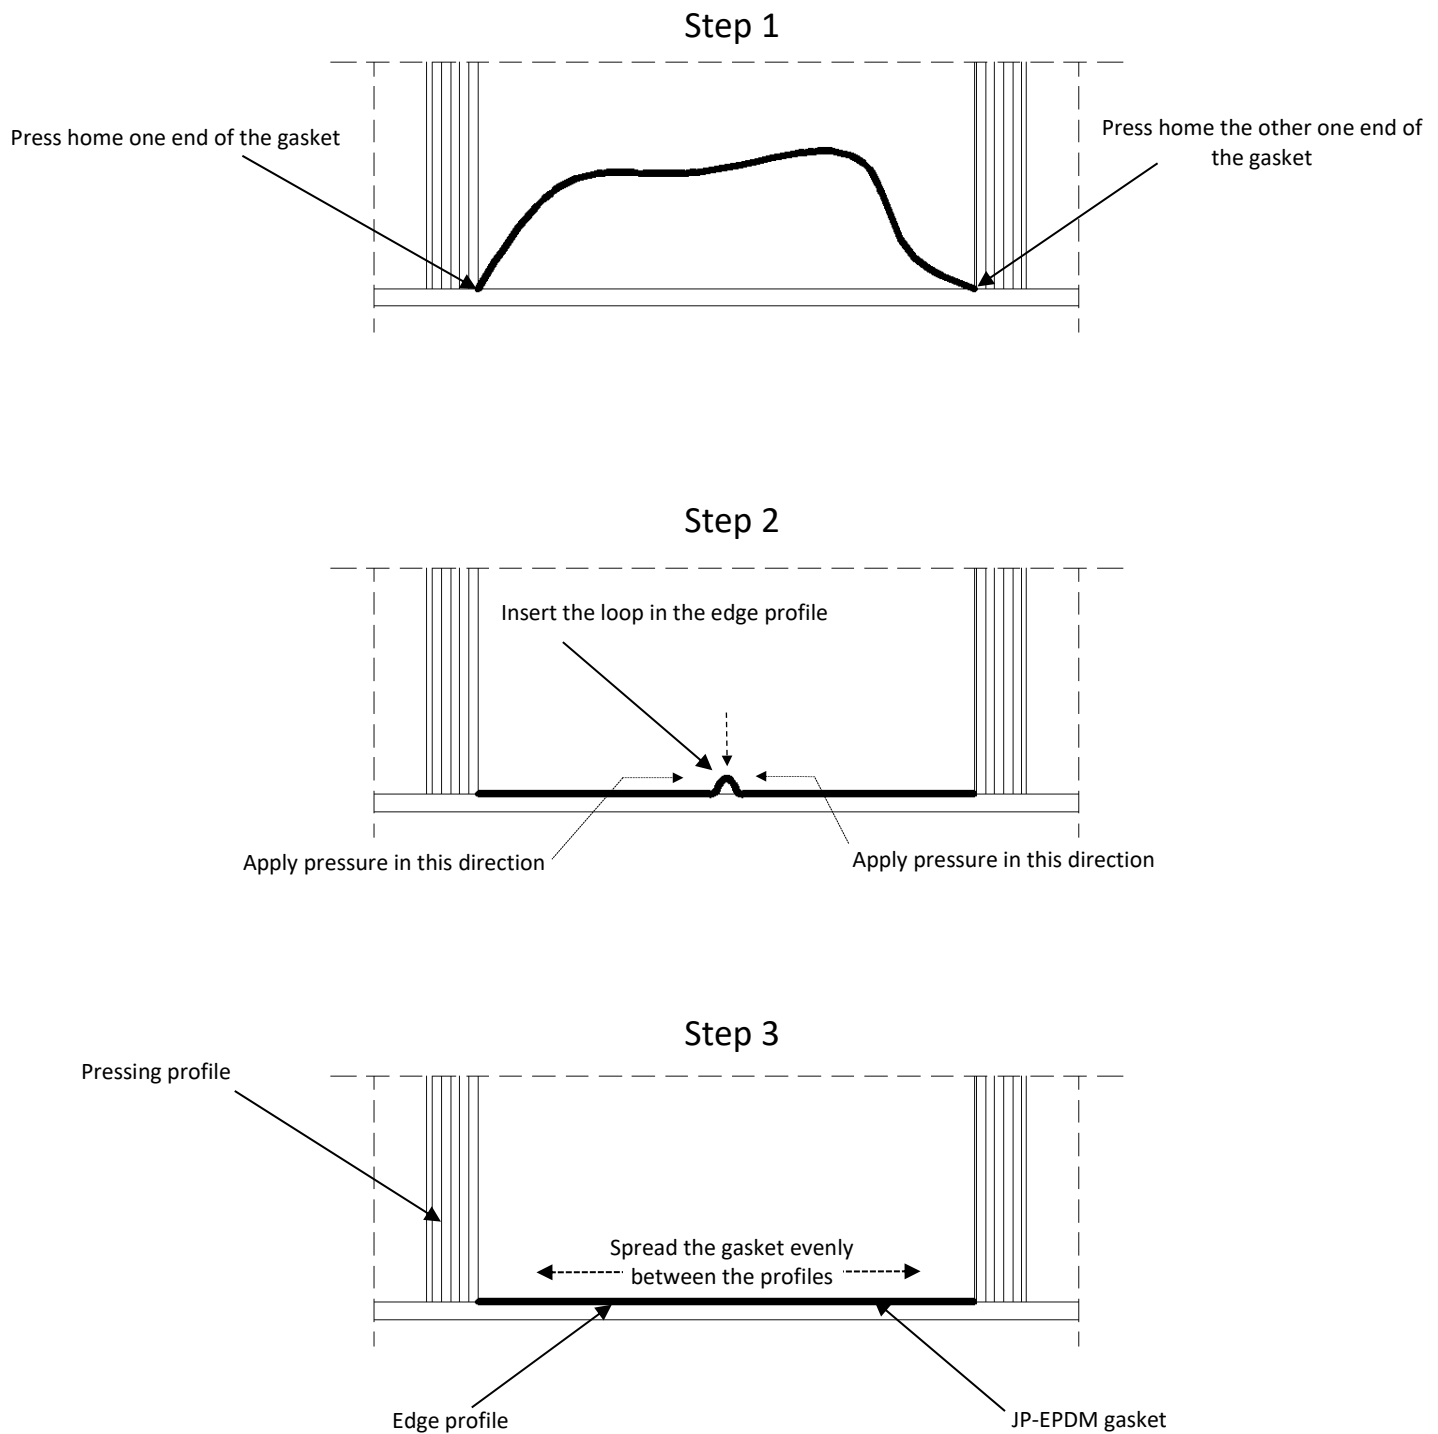

Figure 55 Method of fitting JP-EPDM gasket.
24. Press down the polycarbonate panel sections of JP-EPDM gasket between the edge profile and PCA panel according to (Figure 55 Method of fitting JP-EPDM gasket.). JP-EPDM gaskets are supplied in prepared sections. **Important! Do not trim the supplied gasket sections!** Shortening may cause the rooflight to lose its watertightness.
15. Press down the polycarbonate panel sections of JP-EPDM between the edge of the edge profile and PCA panel according to (Figure 55 Method of fitting JP-EPDM gasket.). JP-EPDM gaskets are supplied in prepared sections. **Important! Do not trim the supplied sections!** Shortening may cause the rooflight to lose its watertightness.